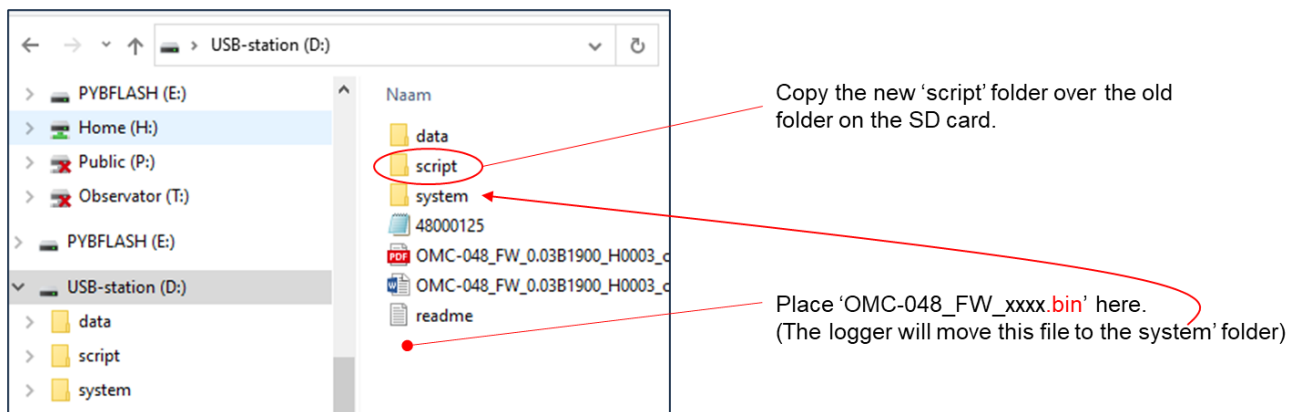

Figure 27. Installing new FW and SW is just copying the 'script' folder and the xxx.bin file.
Basically, all you need to do to update the SW & FW, is to copy a new 'script' folder (SW) and a new .bin file (FW) to the root (top) of the SD card. That's all. It is shown in Figure 27. But there are a few more details that may be relevant.
Once you have access to the SD card, you can copy the script folder from the release 'over' the script folder on the SD card. Then copy the new xxx.bin file to the root (top) of the SD card (see Figure 27). You can now reset the logger in three ways: